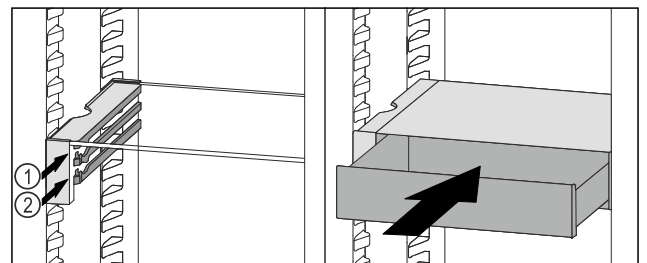

Fig. 140
- ▶ Place the VarioSafe drawer behind the stoppers on desired rib Fig. 140 (1) or Fig. 140 (2).